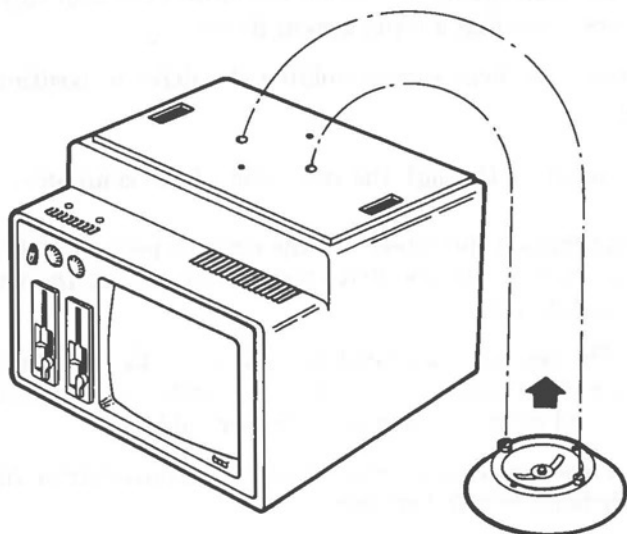

Figure 3-43 Position the Tilt and Swivel
4. Position the tilt and swivel device on the bottom of your computer so that the projections align to the hole in the computer side (see Figure 3-43). (**NOTE:** The projections and computer holes are keyed to allow only a correct installation.)